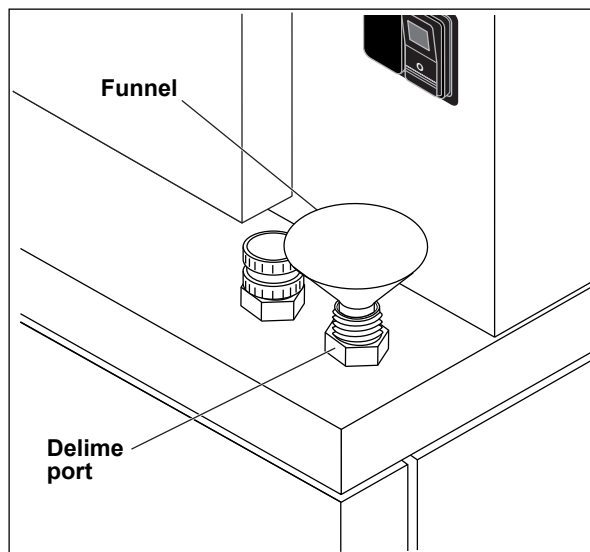

Figure 3
- Remove delime port cap located on the front ledge beneath the lower compartment and insert a funnel into the delime port (Fig. 3).